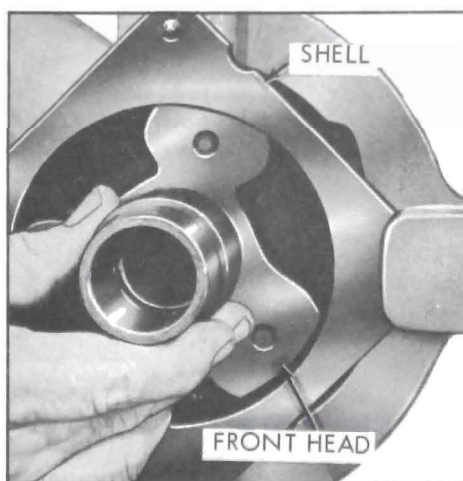

Figure 11-65—Removing Front Head
5. Remove compressor front head, using rubber mallet or wood block to unseat head from shell. See Figure 11-65. Care must be used to protect teflon surface on head from being damaged.